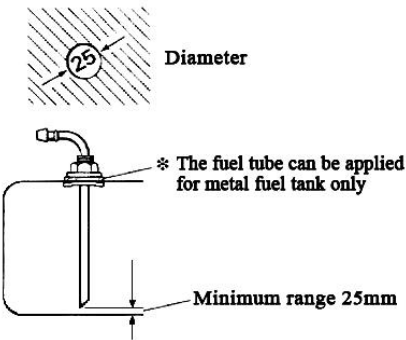

Fig. 7
**Installation of fuel suction pipe (Fig.7)**